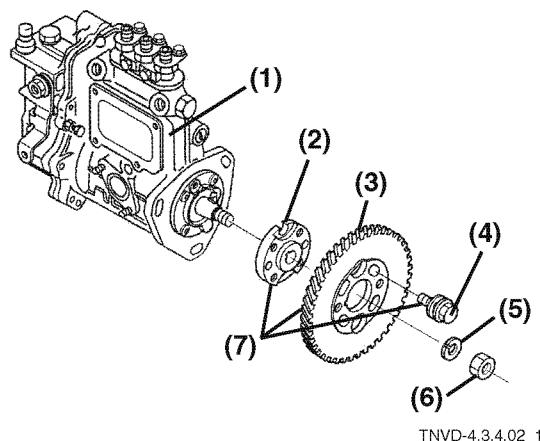

Figure 6-7
6. Loosen the fuel injection pump drive gear nut (Figure 6-7, (6)).
Remove the flange (Figure 6-7, (2)) and fuel injection pump drive gear (Figure 6-7, (3)) as an assembly. Do not loosen the flange bolts (Figure 6-7, (4)).
8. Remove the pump drive gear nut and washer (Figure 6-7, (5)).
1. Use a new O-ring on the fuel pump flange (**Figure 6-7, (2)**). Apply grease to the O-ring.
3. Install the fuel injection pump (**Figure 6-7, (1)**) into the gear housing. Avoid damaging the O-ring.
5. Assemble the pump drive gear nut (**Figure 6-7, (6)**) and washer (**Figure 6-7, (5)**) temporarily.
6. Turn the fuel injection pump (**Figure 6-7, (1)**) until its marks align with the gear housing marks.